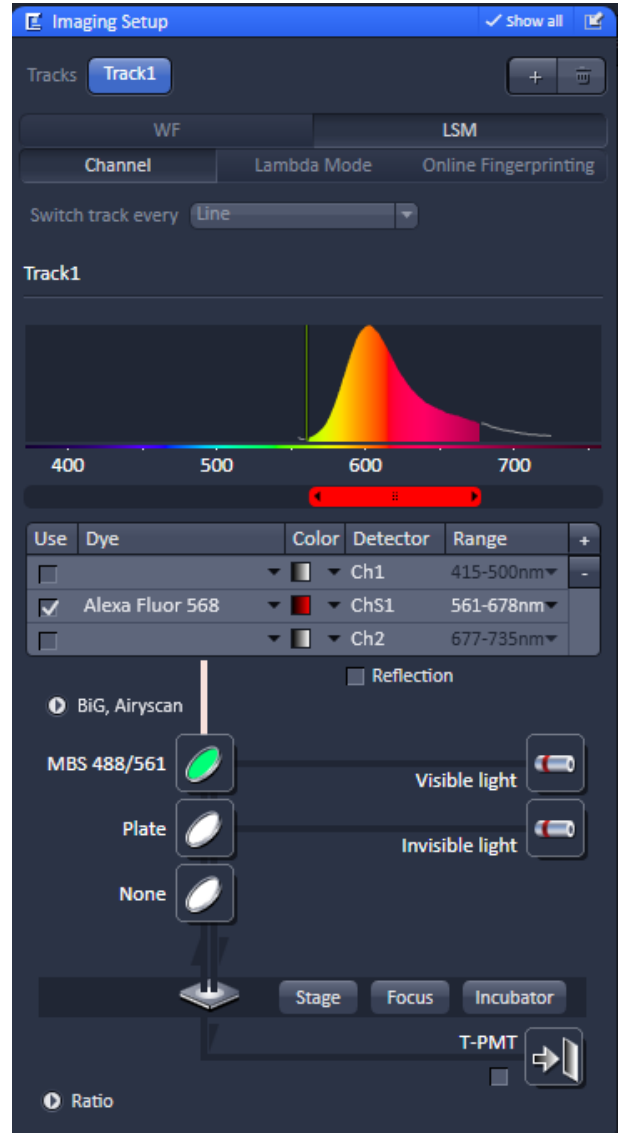

Fig. 249 Imaging Setup – imaging mode selection and track activation
- Activate **Show all Tools** and open the **Imaging Setup** tool. Chose **Channel** mode for the image acquisition (Fig. 249).
- Activate channel 1 (Ch1) via the check box (Fig. 249).
- Use the slider for the respective channel (Fig. 249) to set the required detection band (e.g. 566-644nm).